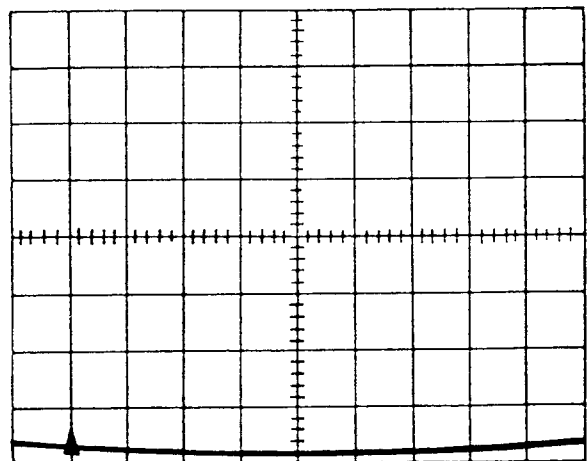

Fig. 4-12. Horizontal Geometry
- G. Adjust R3248 (GEOMETRY, Output Amp board) for less than 0.2 divisions of deviation from the graticule line (see Fig. 4-12).